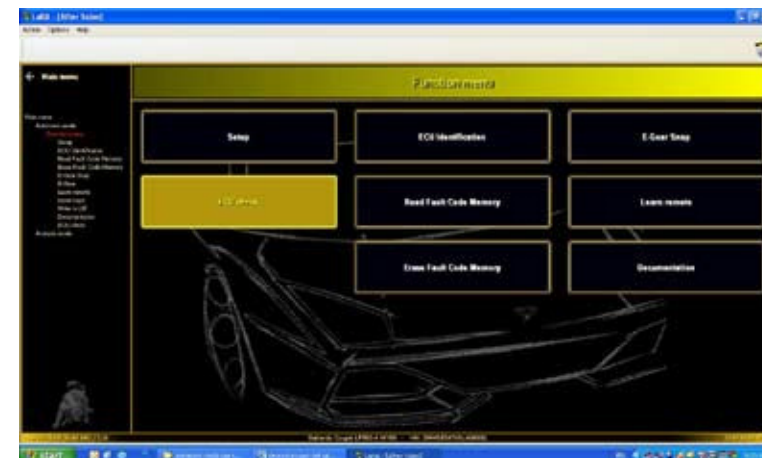

Fig.115
1. Select "ECU check" (Fig.115) from the "Menu Functions" screen (Automatic mode).